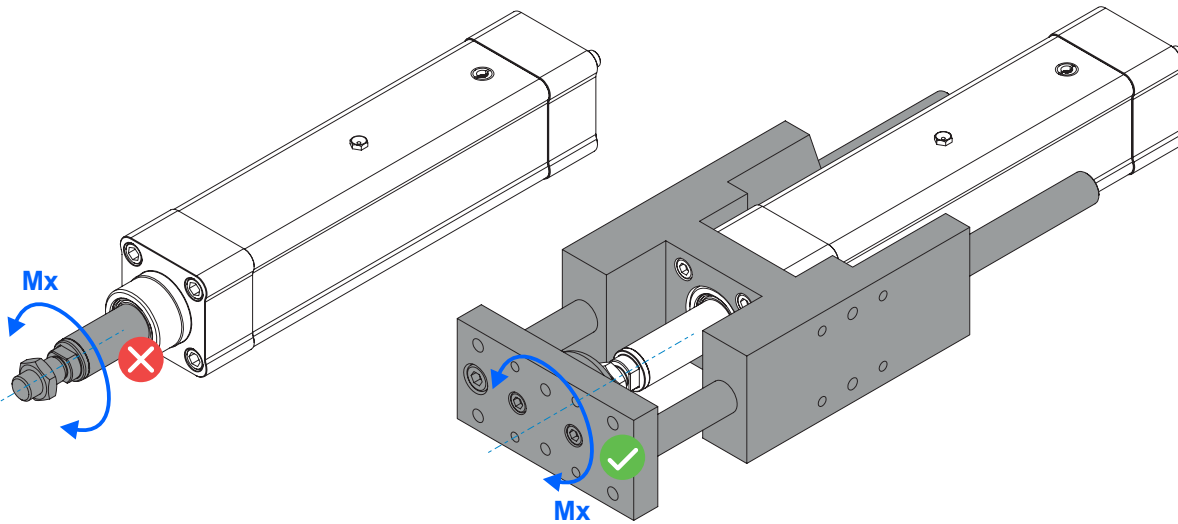

Figure 8: Piston rod subjected to torsional moment  $M_x$ .
-  The piston rod must not be subjected to torsional moment. In the case of the presence of any torsional loads, the GUH guiding unit might be used, see Figure 8.